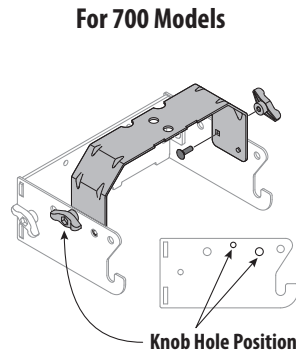

Figure 4 (1)
2. Flip over assembly and mount the hitch support bracket to the universal support bracket (783-08129) using two carriage bolts (710-0276) and wing knobs (720-04122) from hardware pack 689-02364. See Figure 4 (1).